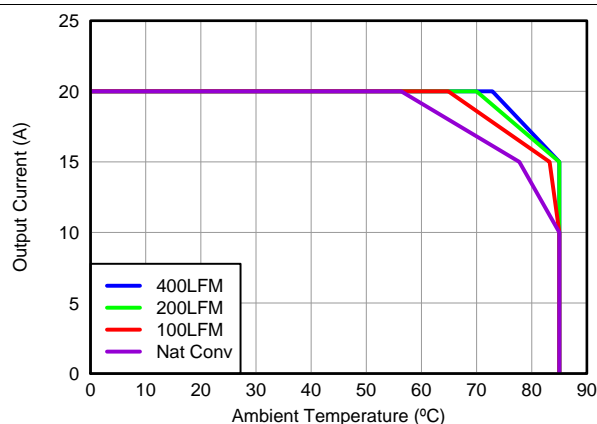
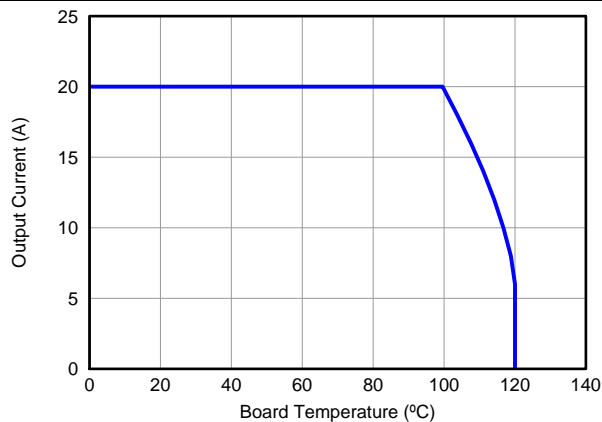

Figure 3. Safe Operating Area – PCB Vertical Mount ⁽¹⁾
Figure 5. Typical Safe Operating Area ⁽¹⁾
The SOA curves in the CSD87330Q3D data sheet provides guidance on the temperature boundaries within an operating system by incorporating the thermal resistance and system power loss. **Figure 3** to **Figure 5** outline the temperature and airflow conditions required for a given load current. The area under the curve dictates the safe operating area. All the curves are based on measurements made on a PCB design with dimensions of 4 in (W) × 3.5 in (L) × 0.062 in (T) and 6 copper layers of 1 oz copper thickness.